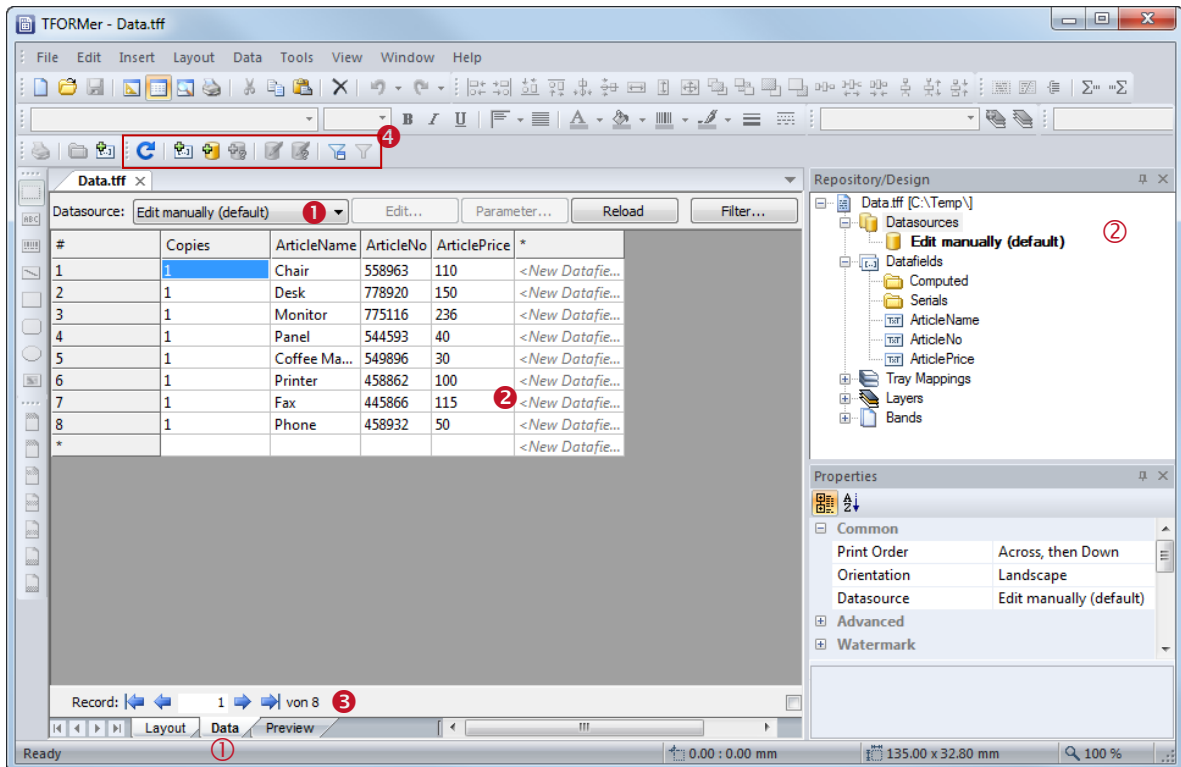

Figure 52: Data View
To switch to the data view click on the **"Data"** tab  at the bottom of the application window (see Figure 52 below) or select **Data ▶ Data View** from the menu. Alternatively press the keyboard shortcut **Ctrl+D**.
- Use the drop-down list to switch to the appropriate datasource (see Figure 52, .